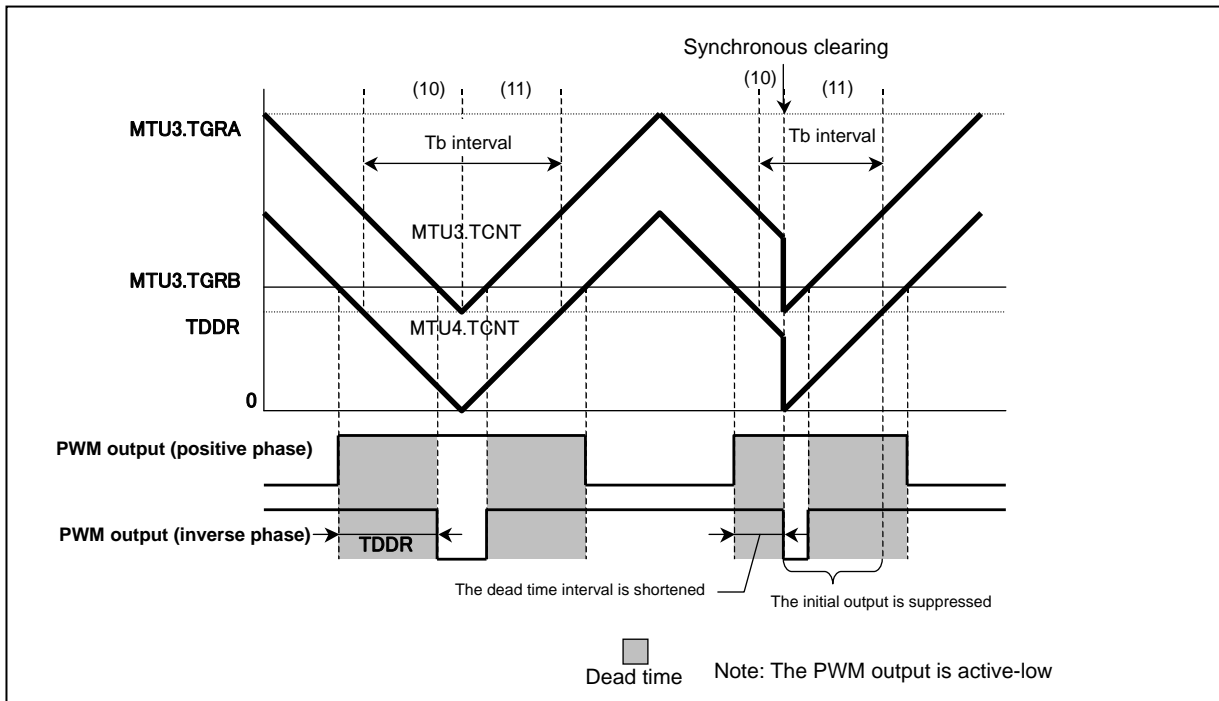

Figure 1 Synchronous Clearing under Condition (1)
Condition (1): For the initial-output suppression interval labeled (10) in Figure 1, synchronous clearing is generated in the dead-time interval for PWM output.